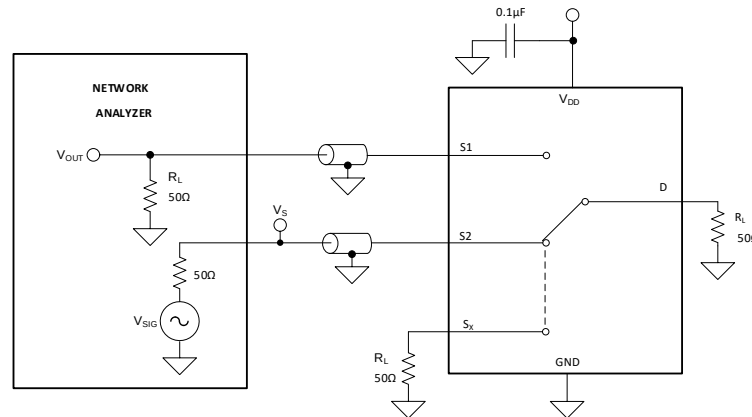

图 15. Channel-to-Channel Crosstalk Measurement Setup
Crosstalk is defined as the ratio of the signal at the drain pin (D) of a different channel, when a signal is applied at the source pin (S_x) of an on-channel. 图 15 shows the setup used to measure, and the equation used to compute crosstalk.